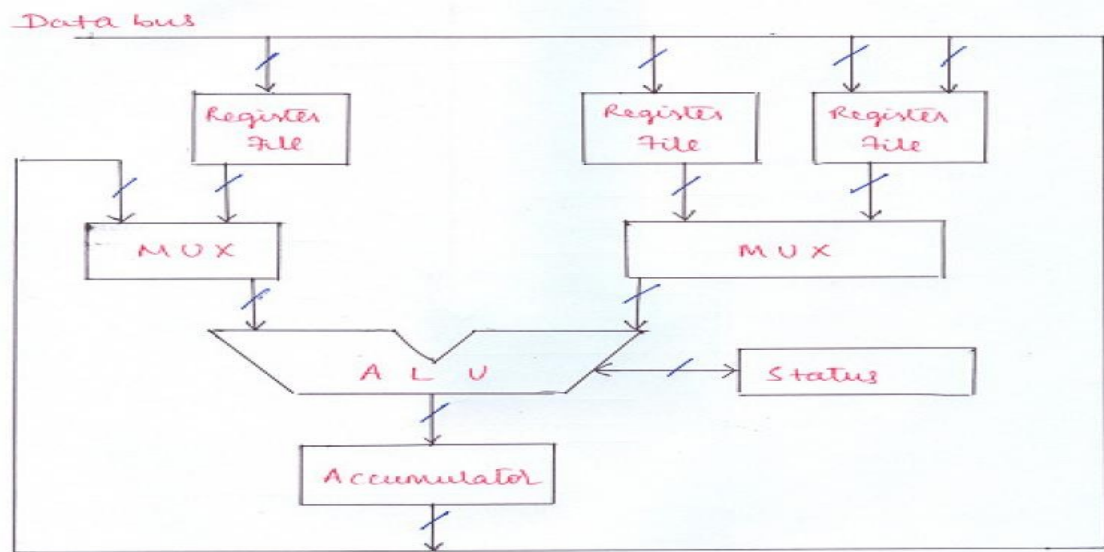

Fig 2.8 Arithmetic Logic Unit of a DSP
- The block diagram of a typical ALU for a DSP is as shown in the figure 2.8.